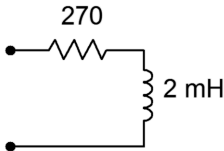

Figure 2.2
- 3. Determine the impedance of the circuit of Figure 2.2 for a 10 kHz sine.
- 4. Determine the impedance of the circuit of Figure 2.2 for a 50 kHz sine.